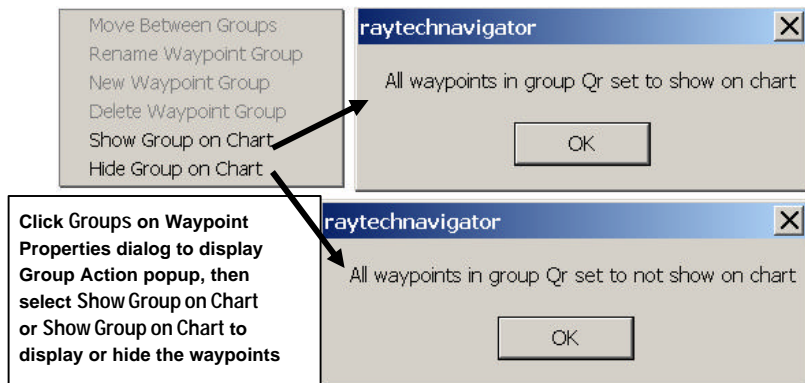

Figure 4-24. Showing or Hiding a Waypoint Group
4. Select **Show Group on Chart** to display the waypoints, or **Hide Group on Chart** to remove them. A confirmation dialog appears (Figure 4-24).